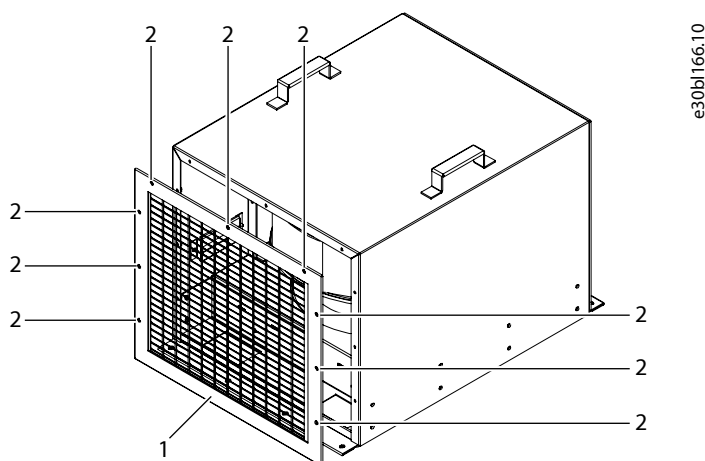

Figure 49: Removing the Front Grate
7. Install the front grates to the fans. See Figure 49.